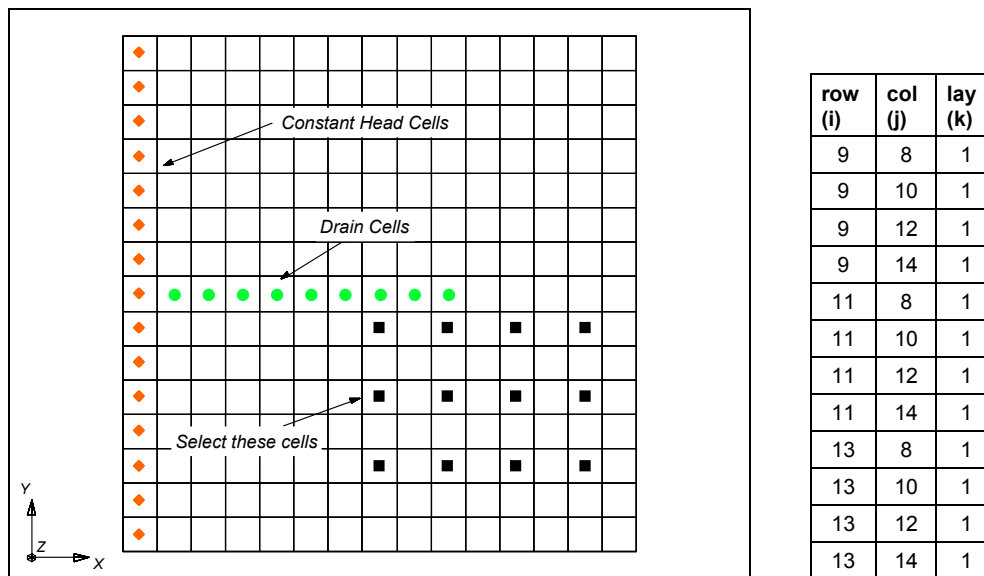

Figure 5. Cells to be Selected on Top Layer
1. While holding down the *Shift* key, select the cells shown in **Figure 5**.